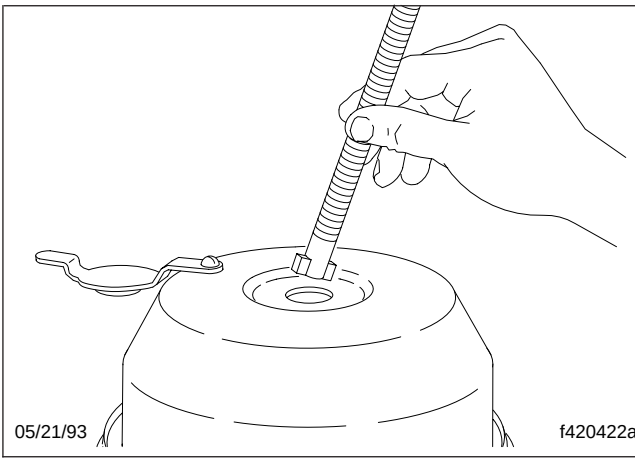

Fig. 4, Inserting the Release Bolt
4. Insert the release bolt in the center-hole into the chamber head. See Fig. 4. Insert the bolt until it bottoms out in the hole in the piston inside the chamber.